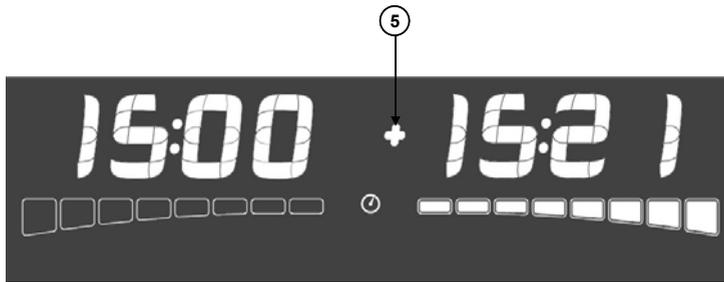

Figure 7 : Display with measurement of time exceeded in Timer 2
If once incubation has finished, the timer is not stopped, the display will show flicker information on the time exceeded with respect to the pre-programmed time by means of the symbol **+** (Ref. (5), Figure 7).